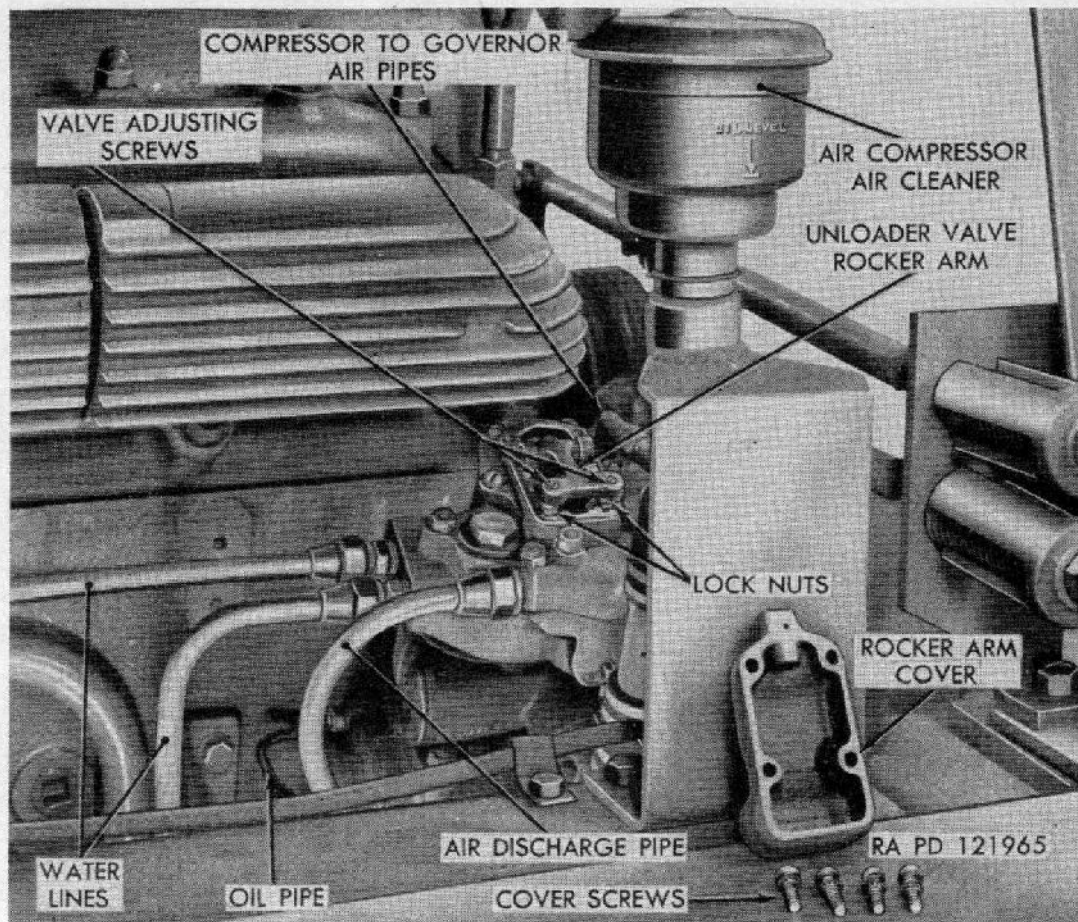
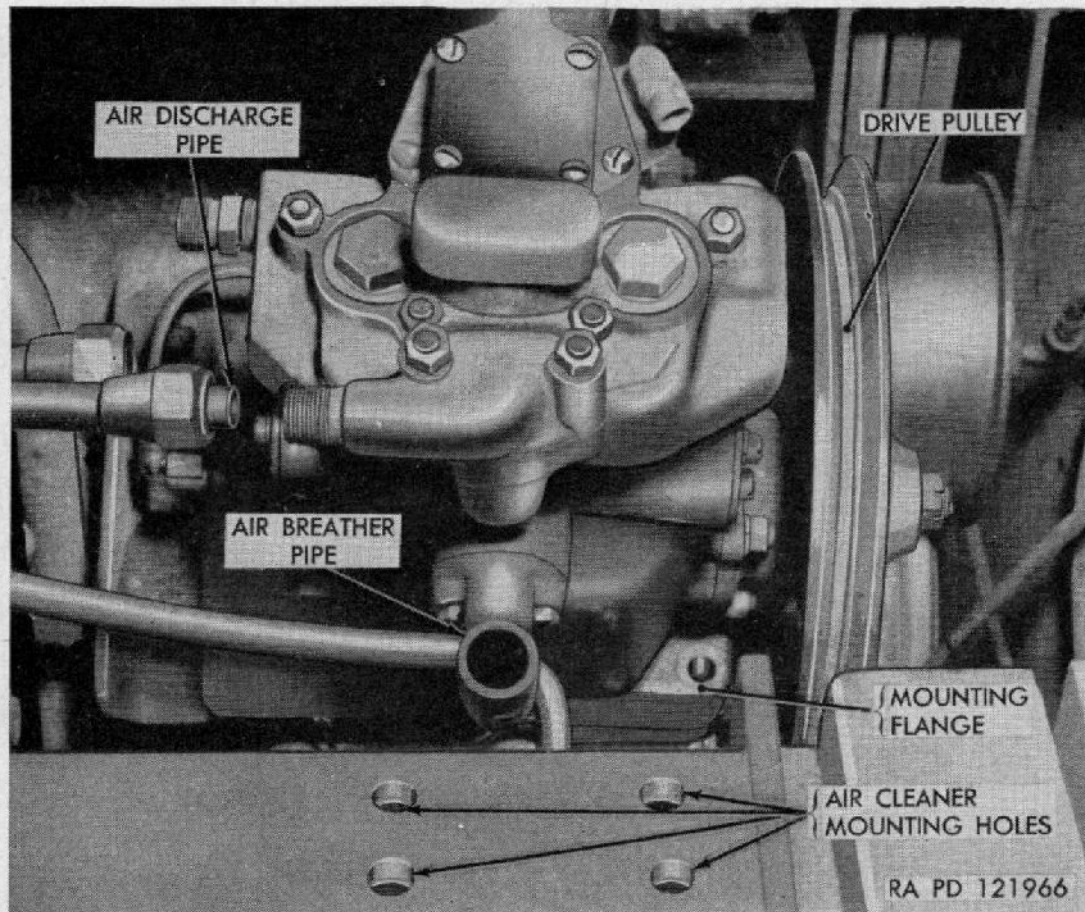

Figure 122. Unloader valve clearance adjustment point.
Figure 123. Air compressor removal details.
- (3) *Unloader valve* (fig. 122). Check the clearance between rocker arms and ends of unloading valve stems in the compressor cylinder head after every 100 hours of operation. This clearance should be 0.010 to 0.025 inch. Use feeler gage to check this clearance and adjust, if necessary, as fol-
- (4) *Compressor discharge pipe.* Remove compressor discharge pipe from air compressor (fig. 122). Remove discharge pipe supporting bracket and remove pipe. Clean pipe of carbon
on compressor head, and disconnect oil pipe from fitting on front end of compressor (fig. 122). Loosen hose clamps on compressor air cleaner connecting hose, and slip hose up on connecting pipe. Remove four cap screws that attach compressor to its mounting bracket, and lift compressor from tractor (fig. 123).
- (1) Flush the head of the compressor with a mixture of 60 percent ethylene glycol type antifreeze compound and 40 percent water treated with soluble cutting oil in proportion of 1 pint to 4 gallons of mixture.
- (2) Turn the crankshaft, after securing compressor to bench, and inject preservative engine oil into elbow on the compressor crankshaft rear bearing cover until oil drips down through the crankcase opening.
- (3) Spray the interior of compressor, through the bottom crankcase opening, with preservative engine oil.
- (4) Plug all openings as follows:
d. *Installation.* Set compressor in place on mounting pad on engine, place belt on drive pulley, and secure compressor with four cap screws and lock washers. Connect oil line to fitting on front end of compressor. Connect the two water lines and the two air lines to fittings on compressor head (fig. 122). Adjust compressor drive belt as explained in paragraph 99. Tighten lock nut. Fill cooling system (par. 131b); then start engine and inspect for leaks at fittings. Check unloader valve clearance; adjust if necessary (a(3) above).